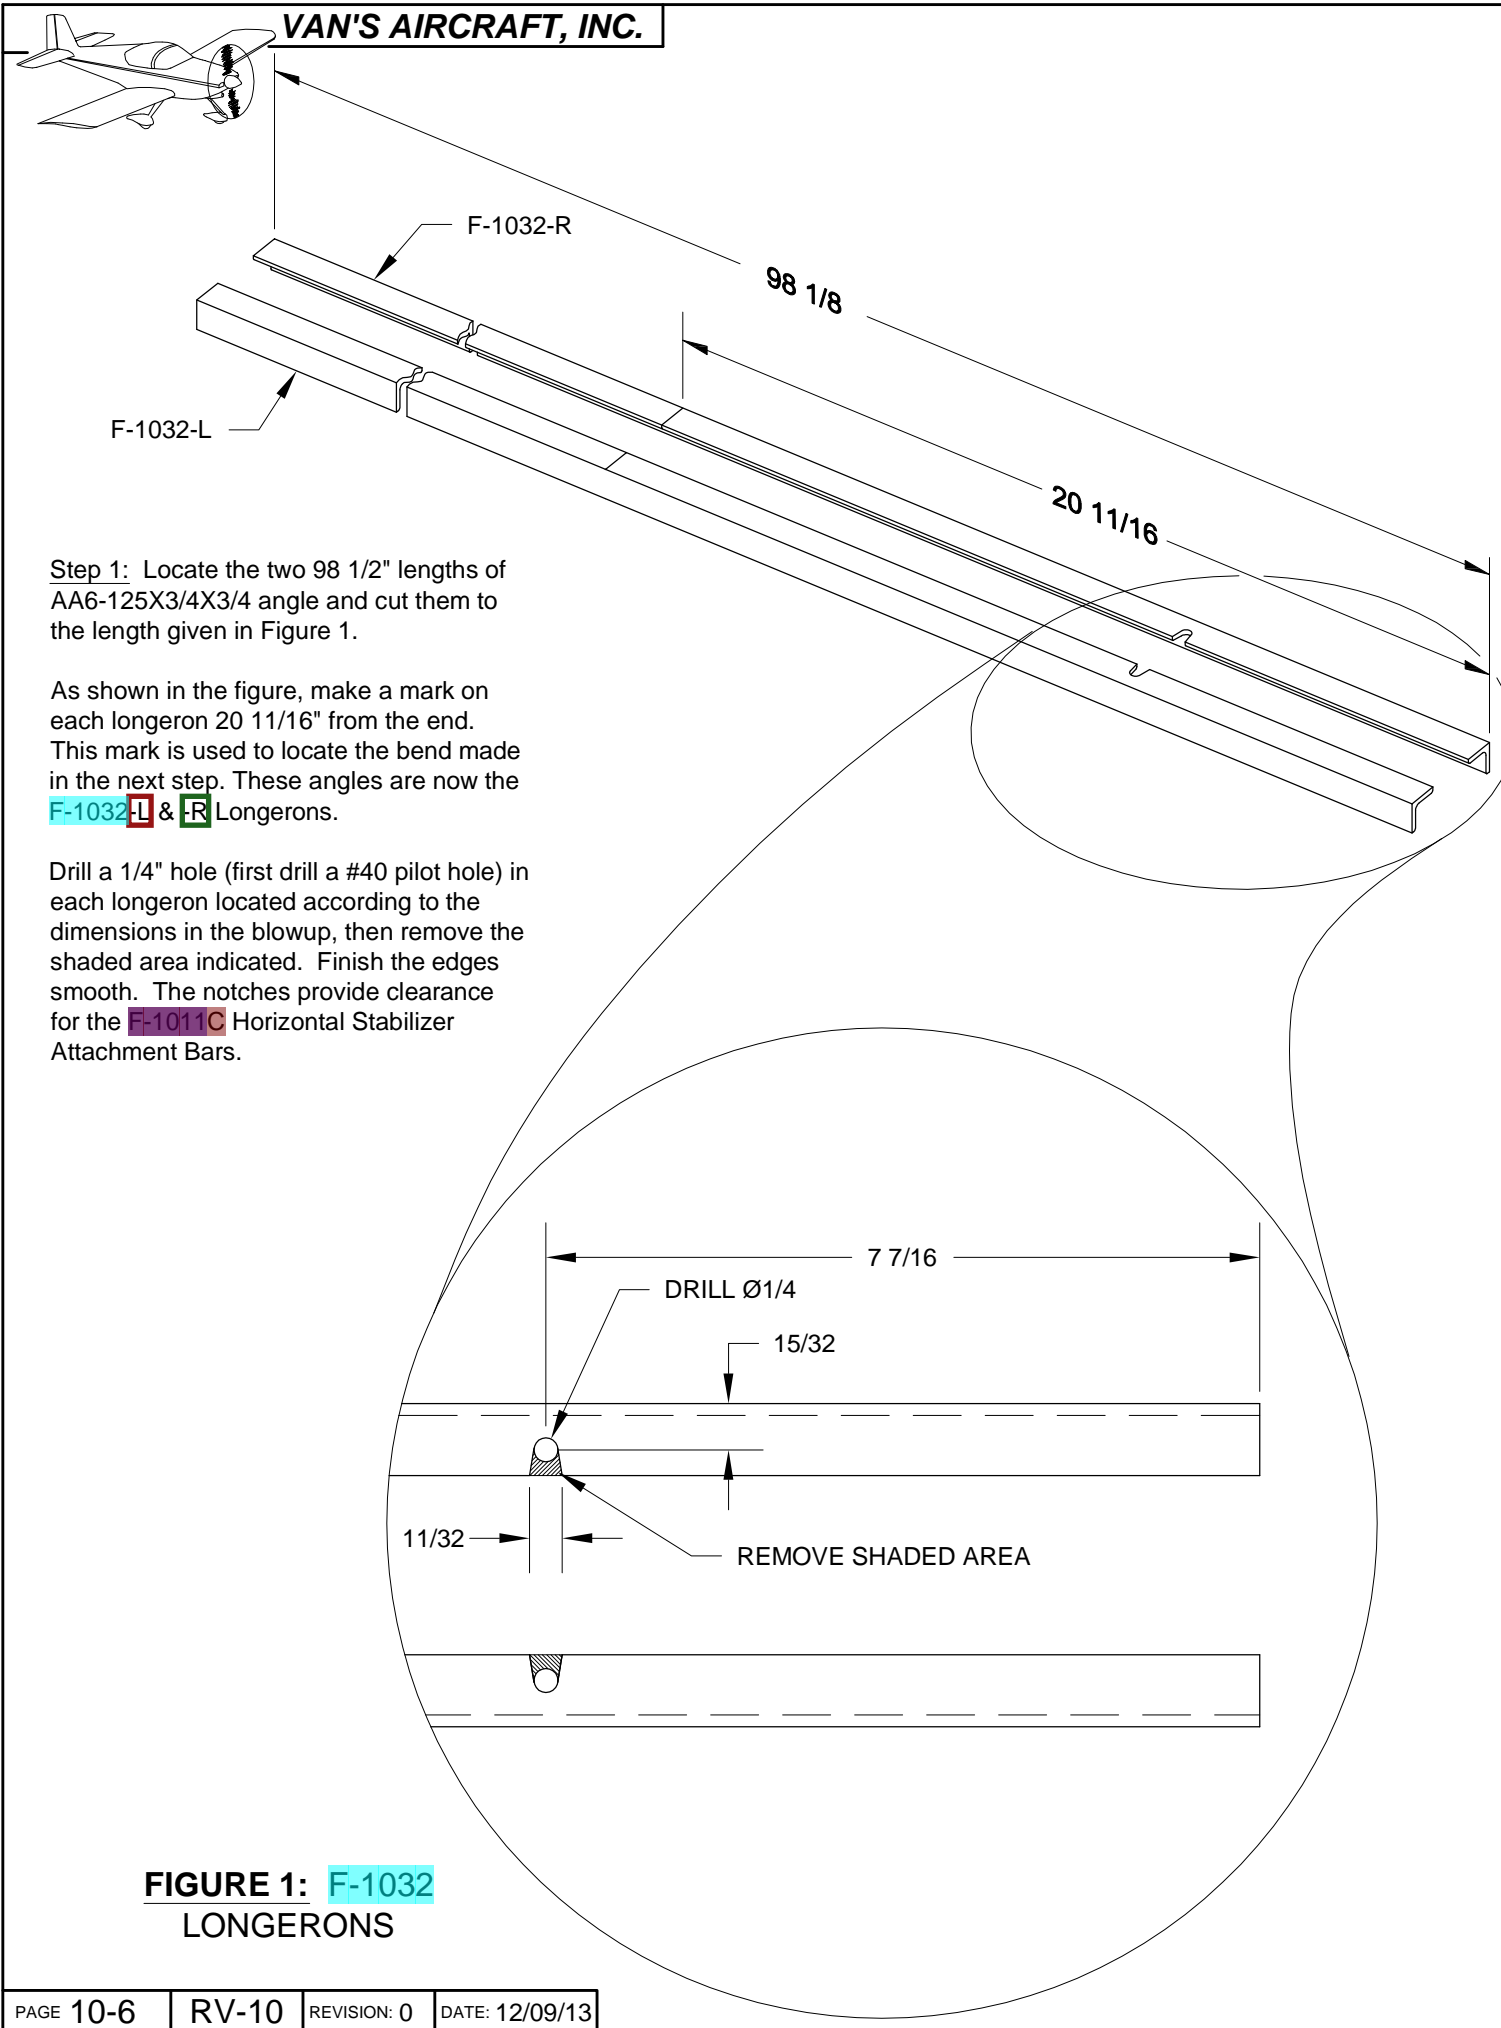

FIGURE 1: F-1032 LONGERONS
Step 1: Locate the two 98 1/2" lengths of AA6-125X3/4X3/4 angle and cut them to the length given in Figure 1.